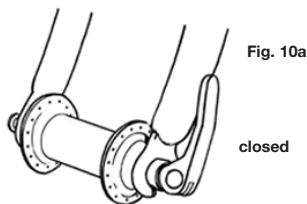

Fig. 10a
- 2 Move the wheel's quick-release lever from the locked or CLOSED position to the OPEN position (figs. 10a & b).
- 3 If your front fork does not have a secondary retention device go to step (5).
- 2 With the steering fork facing forward, insert the wheel between the fork blades so that the axle seats firmly at the top of the slots, which are at the tips of the fork blades – the fork dropouts. The quick-release lever should be on the left side of the bicycle (fig.10a & b). If your bike has a clip-on type secondary retention device, engage it.
- 5 Tighten the quick-release adjusting nut until it is finger tight against the frame dropout; then swing the lever toward the front of the bike until it is parallel to the frame's chain stay or seat stay and is curved toward the wheel (fig. 10a & fig. 11). To apply enough clamping force, you should have to wrap your fingers around a frame tube for leverage, and the lever should leave a clear imprint in the palm of your hand.